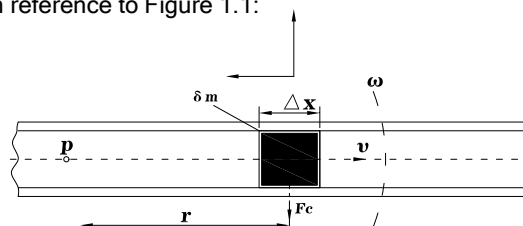

Figure 1-1
If a pipe is rotated around a point (P) while liquid is flowing through it (toward or away from the center of rotation), that fluid will generate an inertial force, with reference to Figure 1.1:
The force generated by tangential acceleration is Coriolis force, its value is equal to $F_c = 2\omega v \delta m$. In figure 1.1 fluid $\delta m = \rho A \times \Delta X$, So Coriolis force can be expressed as: